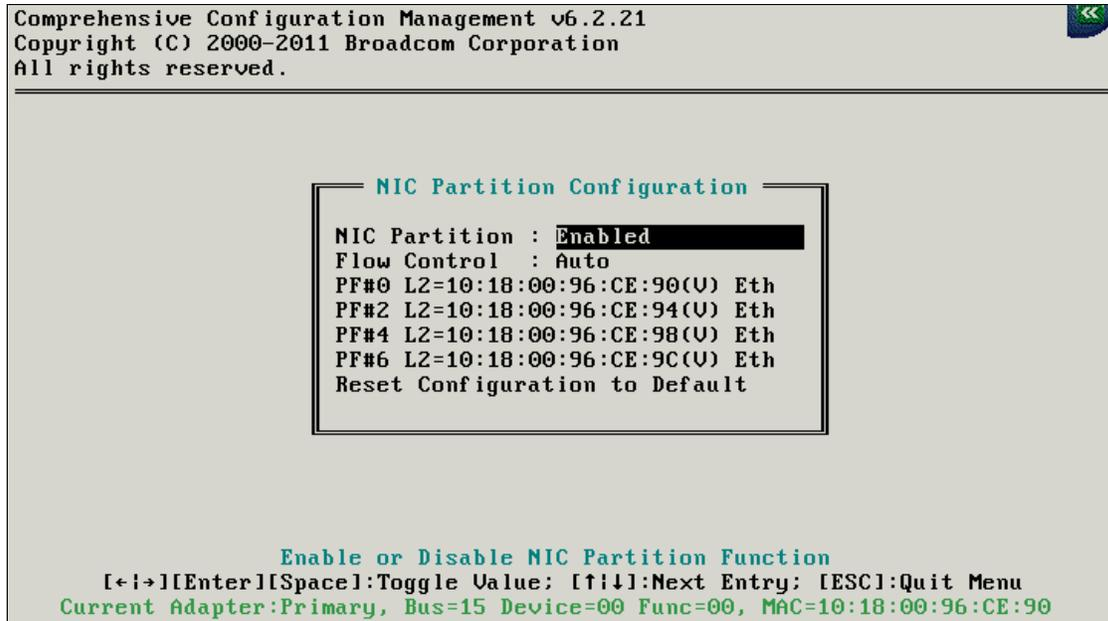

Figure 10-48 Device Configuration panel with NIC Partition set to Enabled
7. In the NIC Partition Configuration panel (Figure 10-48), ensure that NIC Partition is set to **Enabled**. Then press Esc.